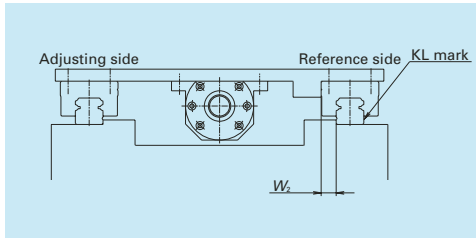
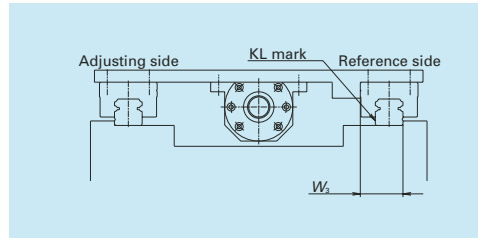

Fig. 4.3 Mounting width  $W_2$
Fig. 4.4 Mounting width  $W_3$
- Mounting width differs depending on the arrangement of the datum surfaces of the rail and slide on the reference linear guide (indicated as KL on the rail). (Fig. 4.3 and Fig. 4.4)